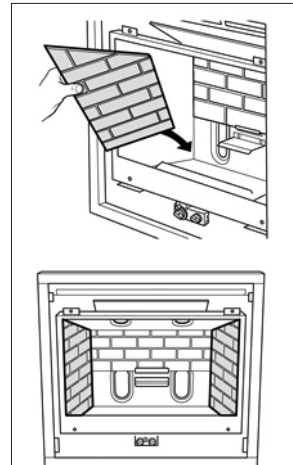

Figure 33 Side walls
2. Locate the sidewalls against the sides of the firebox. Make sure that they are behind the raised edges of the burner module base at the back corners. See figure 33.